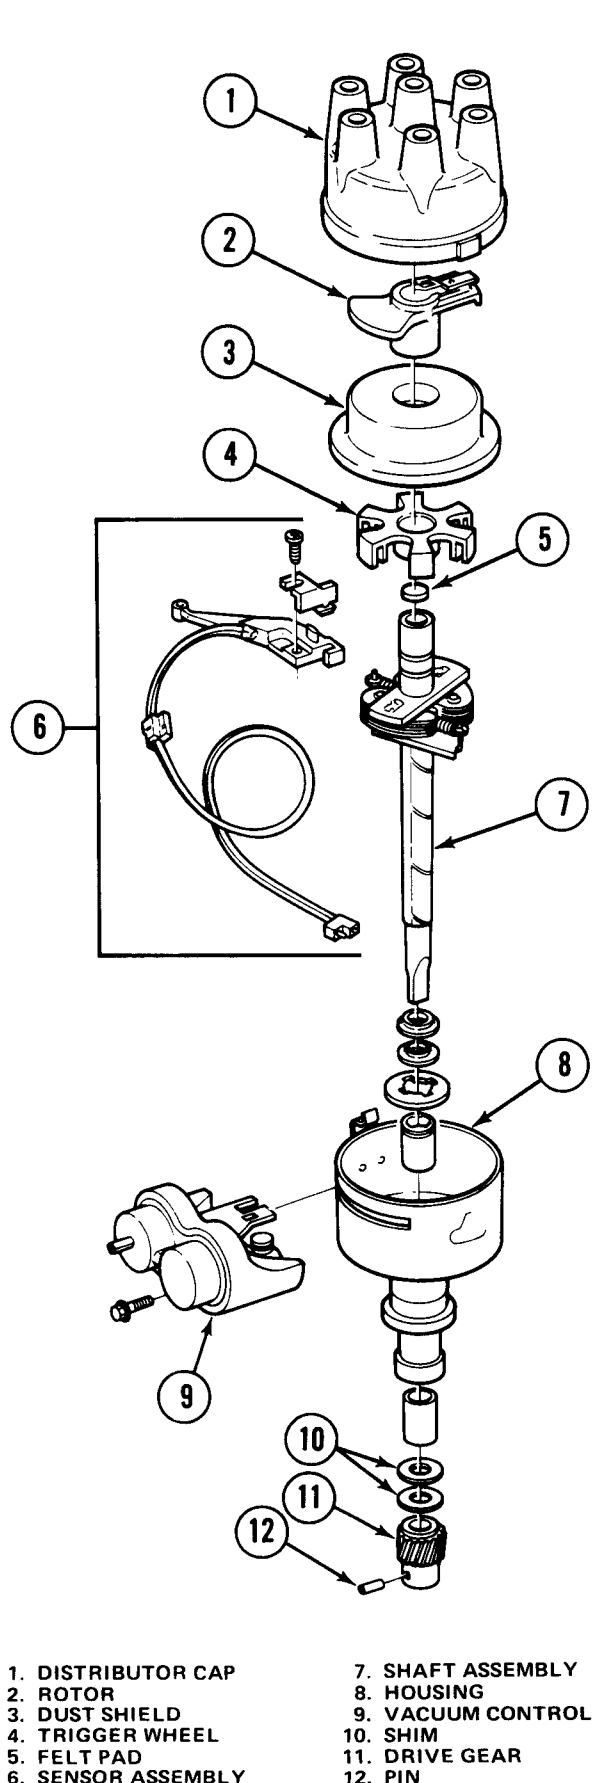

Fig. 3-57 Distributor—Disassembled View
- (1) Place distributor in suitable holding device.
- (2) Remove rotor and dust shield (fig. 3-57).